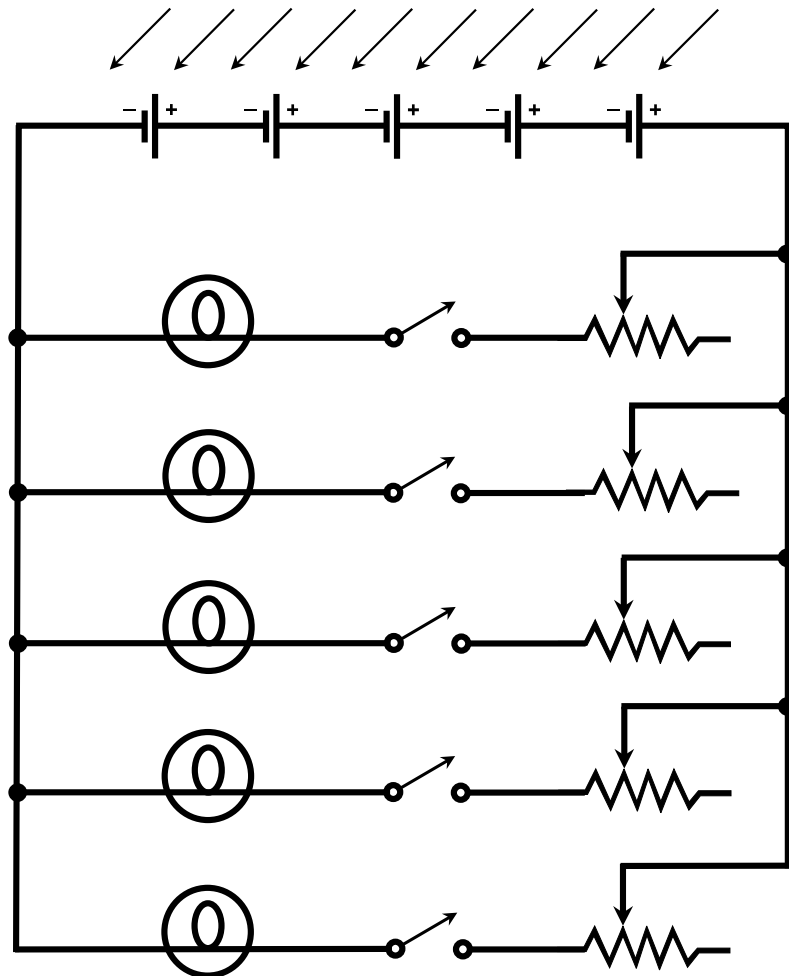

Fig. Test1-3. Illustration for Part One Test Questions 26 through 33.
26. In Fig. Test1-3, the five symbols at the top with the arrows represent
27. In Fig. Test1-3, the five symbols at the right with the zig-zaggy lines represent
28. In Fig. Test1-3, the five symbols down the middle with the single arrows and the pairs of little circles represent
29. In Fig. Test1-3, the five symbols consisting of large circles with ovals inside represent
30. Suppose that all five of the components at the top of the circuit in Fig. Test1-3 are turned around, so that the + and – terminals are interchanged. How will this affect the performance of the whole arrangement?
31. In Fig. Test1-3, the switches are all
32. Suppose one of the components at the top of the circuit in Fig. Test1-3 is removed, leaving an open circuit in its place. How will this affect the performance of the whole arrangement?
33. Suppose that the component at the extreme lower right of the circuit in Fig. Test1-3 is removed, leaving an open circuit in its place. How will this affect the performance of the whole arrangement?